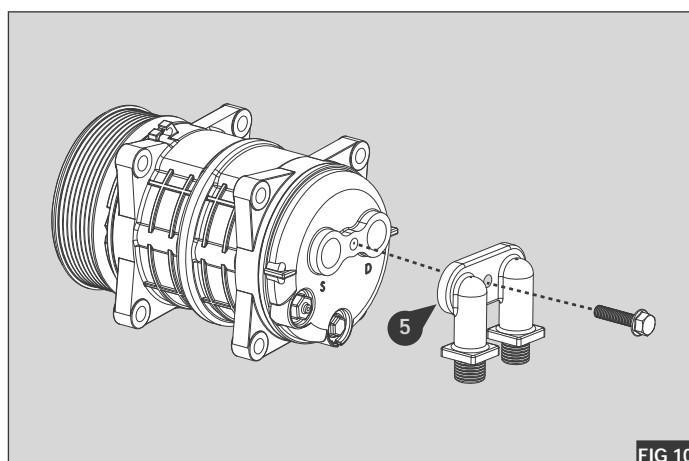

FIG 10
1. Remove the compressor manifold and fit the supplied inverted manifold (5) to the compressor - Fig 10